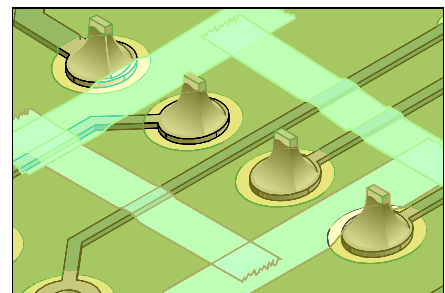

Figure 1: Apply High Temperature Tape to outline area for coating removal.
1. Apply High Temperature Tape to outline the area where the coating needs to be removed. (See Figure 1).